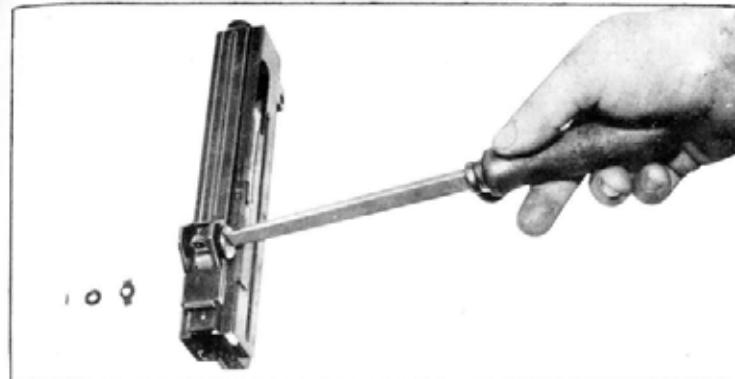

Fig. 78
- con attrezzo 108 svitare in senso antiorario la vite diottra (fig. 78).
- with tool 108 unscrew anticlockwise the aperture sight and remove it (figure 78).